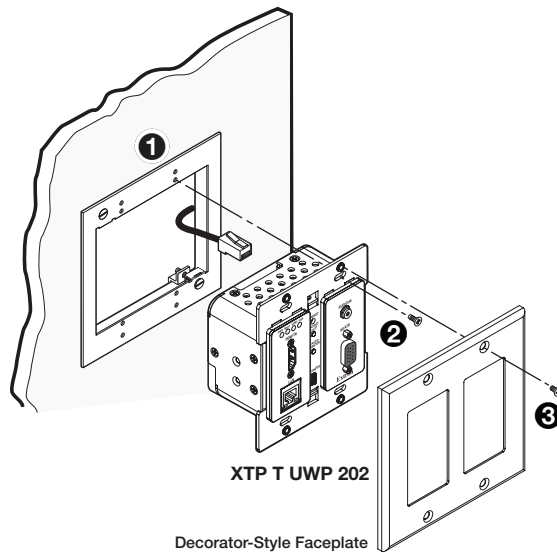

Figure 7. Installing the XTP T UWP 202 (LAN Model Shown) in the Provided Mud Ring
1. Align the mounting screws on the XTP T UWP 202 with the available holes on the mud ring (see figure 7, ①) or metal junction box (see figure 8, ①).
2. Using the provided screws, attach the XTP T UWP 202 to the mud ring (see figure 7, ②) or metal junction box (see figure 8, ②).
3. Use four mounting screws to attach the decorator-style faceplate to the XTP T UWP 202 (see figure 7 or 8, ③).